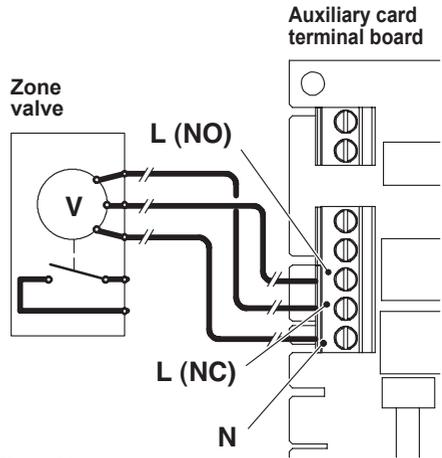

Fig. 6.26
For the connection of the zone valve use the terminals from the auxiliary card **N** (common neutral), **L (NO)** line 230V ~ (valve opens heating system), **L (NC)** line 230V ~ (valve closes heating system) Fig. 6.26.